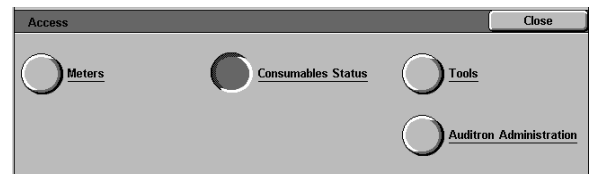

Figure 7: Consumables Status button
- 2 Touch the **Consumables Status** button, Figure 7.